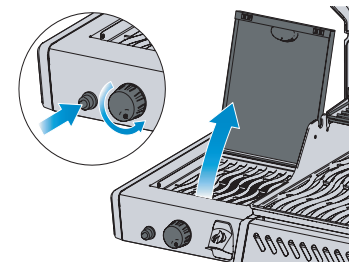

Fig. 3
4. If the burner will not ignite – turn burner control knob clockwise to the OFF position. Wait 5 minutes. Repeat step 2 and 3. (Fig. 3)